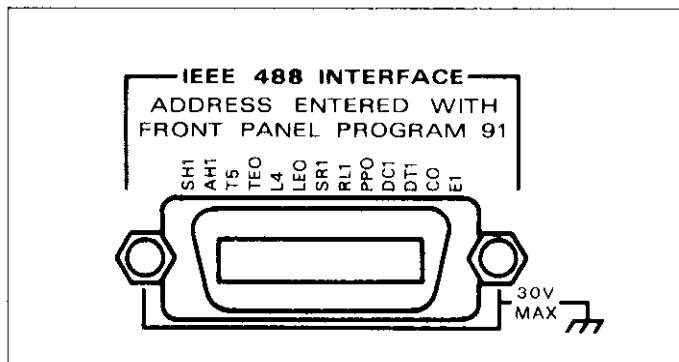

Figure 3-7. Model 193 IEEE-488 Connector
1. Line up the connector on the cable with the connector on the rear panel of the instrument. See Figure 3-7 for connector location.